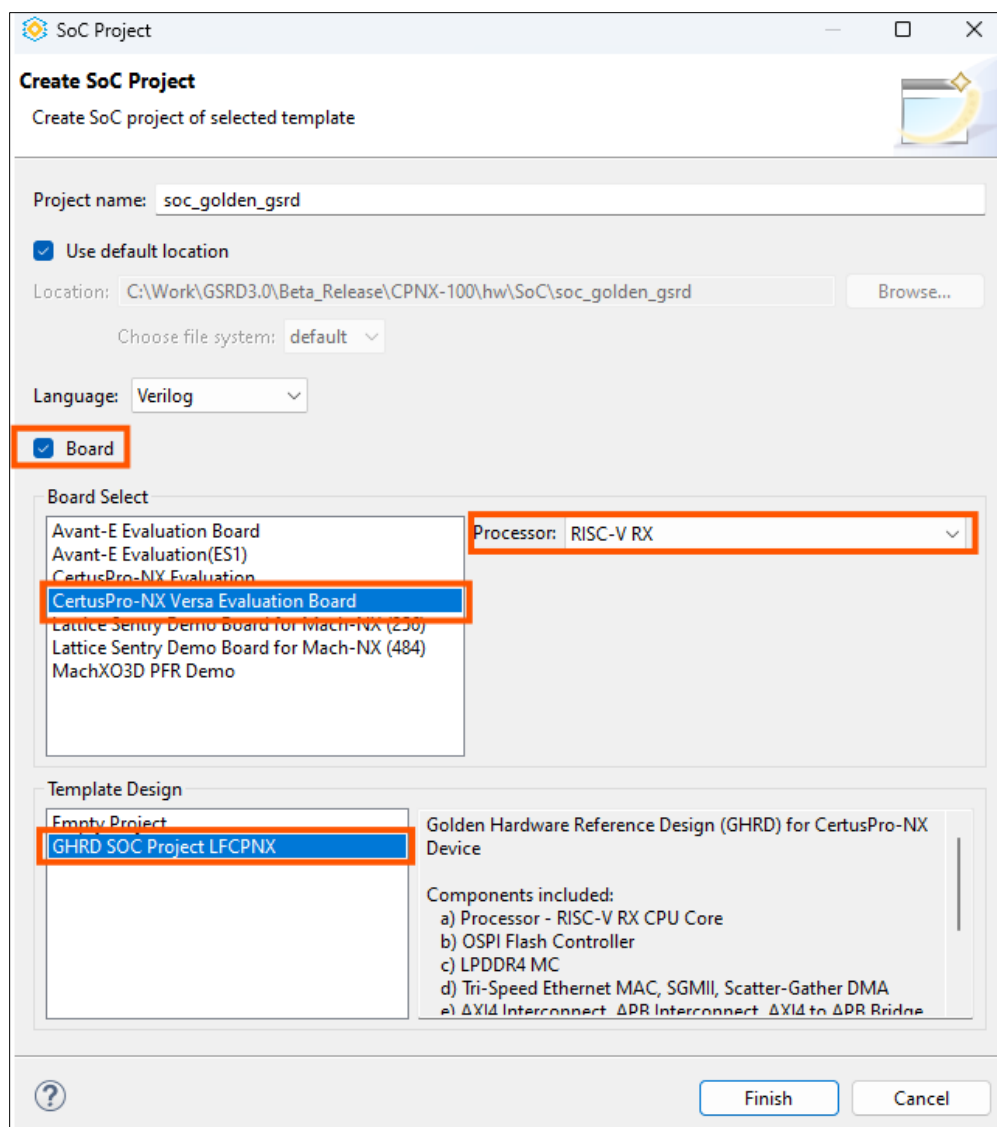

Figure 7.4. SoC Project Window
- e. From **Template Design** section, select **GHRD SoC Project LFCPNX** as shown in Figure 7.4.